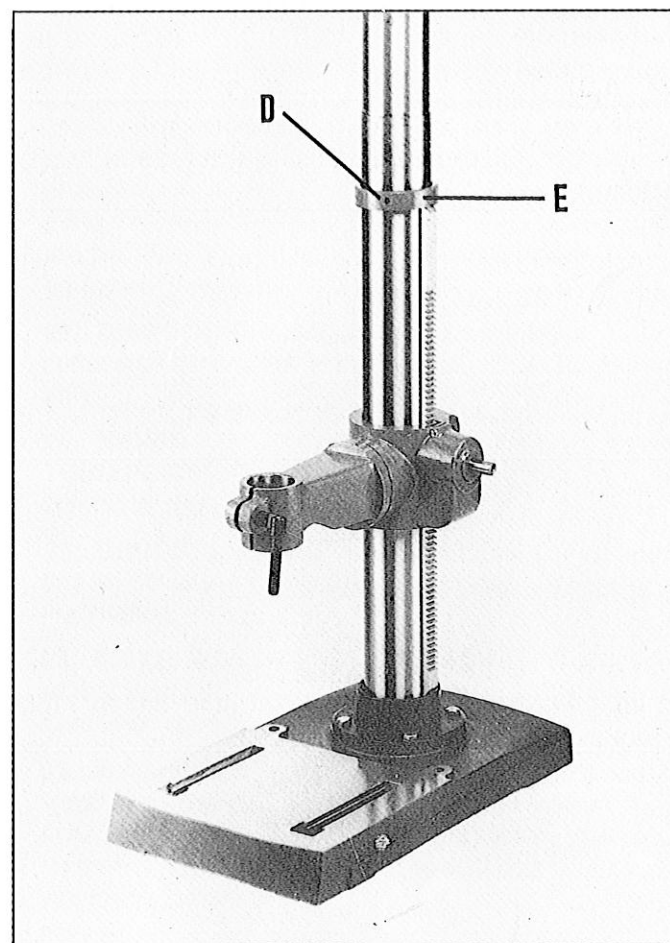

Fig 5
4. Position table bracket all the way down on the column. Reassemble ring (E) and tighten set screw (D), Fig. 5.